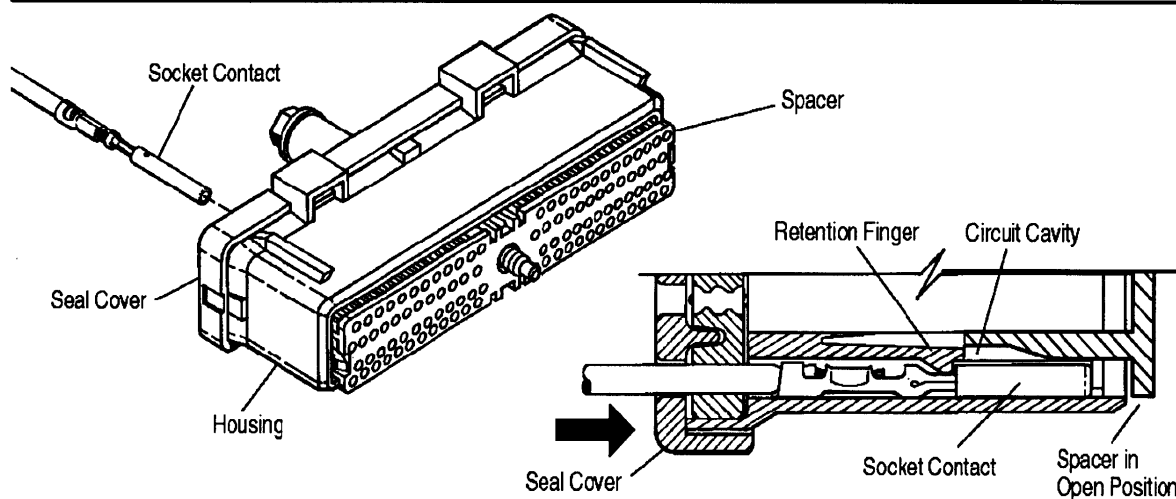

Figure 2
Check to be sure the plug spacer is in the **open**, or as-shipped, position (see Figure 2). Then, proceed as follows:
1. To insert a contact, push it straight into the appropriate circuit cavity as far as it will go (see Figure 2).